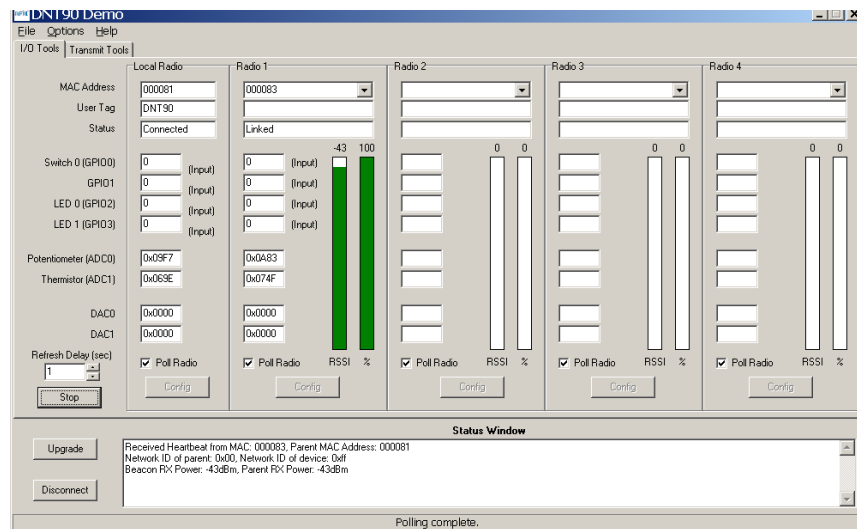

Figure 8
10. The Demo will display data on the Remote in the *Radio 1* column, including bar graphs of *RSSI* (signal strength) and *percent* packet success rate, as shown in Figure 8. Adjusting the yellow pot on the Remote can be observed in the Potentiometer (ADC1) data.